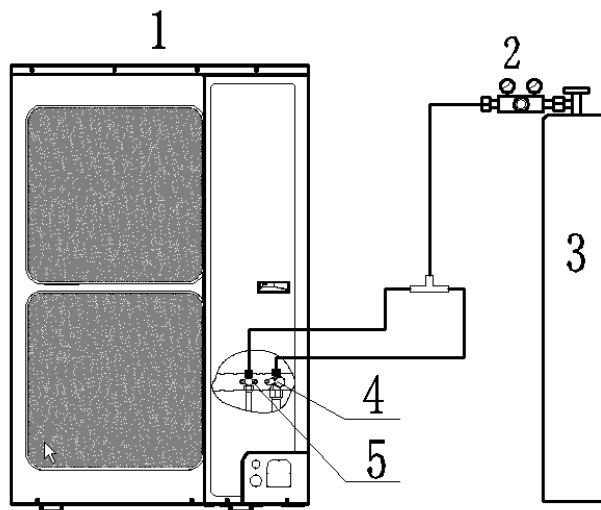

Fig.13 The way of connecting pipe
- 3) Joints at indoor and outdoor units should be wrapped with insulating material and leave no clearance between pipe and wall. See Fig.13.